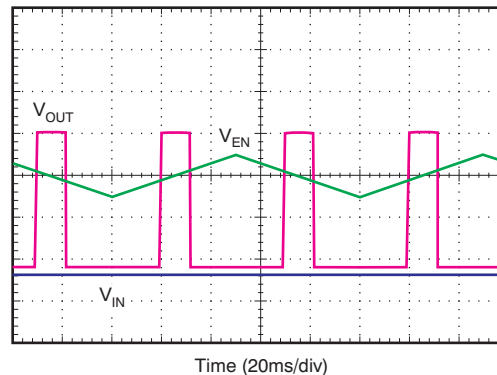

Figure 29. Enable Pin Positive/Negative Threshold
The TPS7A33 provides a dual-polarity enable pin (EN) that turns on the regulator when $|V_{EN}| > 2.0$ V, whether the voltage is positive or negative, as shown in Figure 29.